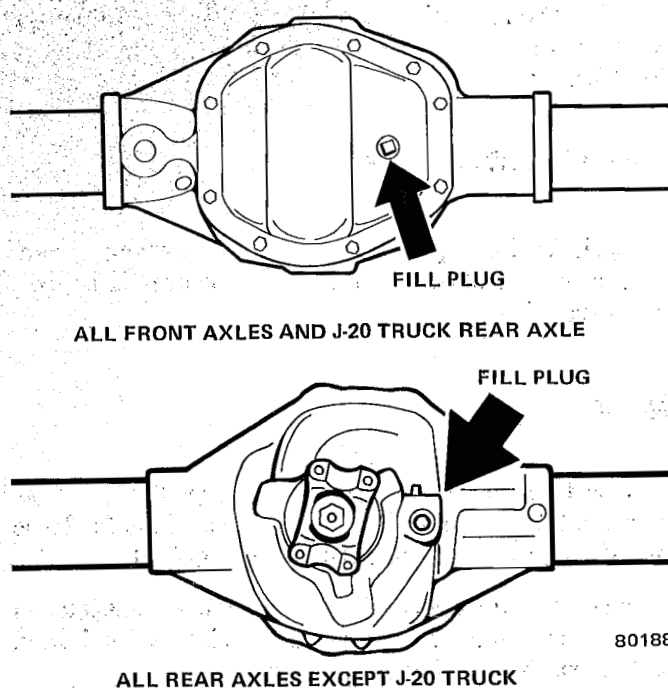

Fig. B-8 Axle Fill Plug Locations
The lubricant level of all differentials should be at the level of the fill hole (fig. B-8). If not, bring to level by adding the recommended lubricant.
(1) Remove axle differential housing cover.
(2) Allow lubricant to drain completely.
(3) On all differentials except Trac-Loc, flush the differential with a flushing oil or light engine oil to clean out the housing (do not use water, steam, kerosene or gasoline for flushing). Trac-Loc differentials may be cleaned only by disassembling the unit and wiping with clean, lint-free rags. Do not flush the unit.
(4) Check condition of differential housing cover gasket. Replace if necessary.
(5) Install gasket and differential housing cover.
(6) Tighten cover bolts to 15 to 25 foot-pounds (20 to 34 N•m) torque.
(7) Remove fill plug and add new lubricant to fill hole level (fig. B-8).
(8) Install fill plug.